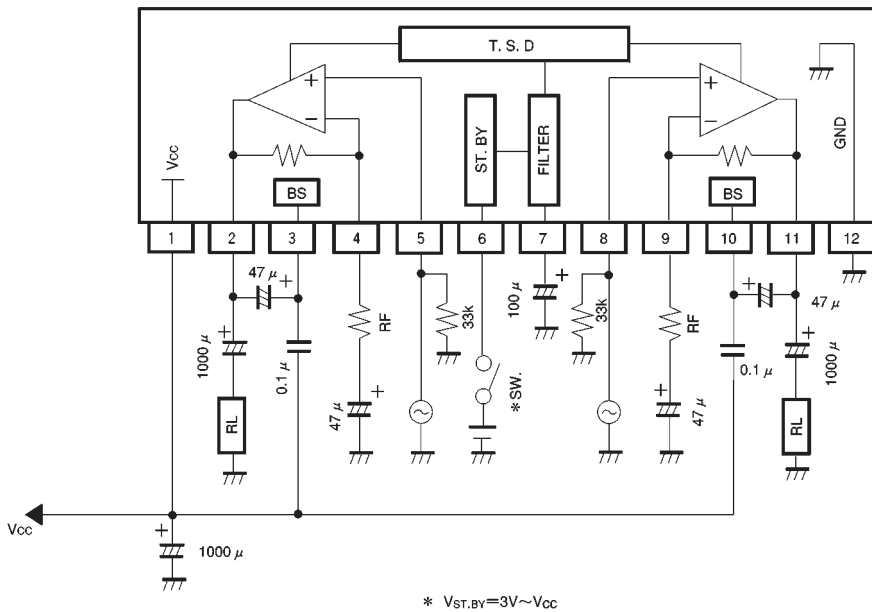

Fig.1
(10) Standard values for the DC voltages on each pin ($V_{CC} = 12V$, $T_a = 25^{\circ}C$, measurement circuit: Fig. 1)